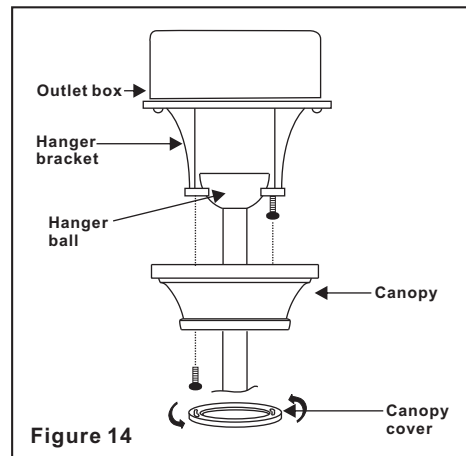

Figure 14
Step 2. Slide the canopy up to ceiling and over the screw on hanger bracket. Rotate canopy clockwise and tighten the screws. Next, while holding the canopy with one hand, slide the canopy cover over the screws and rotate clockwise until tight. **Note:** adjust the canopy screws as necessary until the canopy and canopy cover are snug. (Fig. 14)